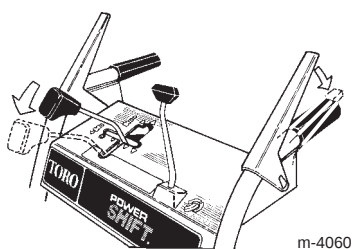

Figure 22
2. Move the speed shift control fully forward to the Power Shift position and hold it there (Fig. 22).
3. Fully engage the traction drive lever to move the wheels into the alternate position (Figs. 22 and 23).